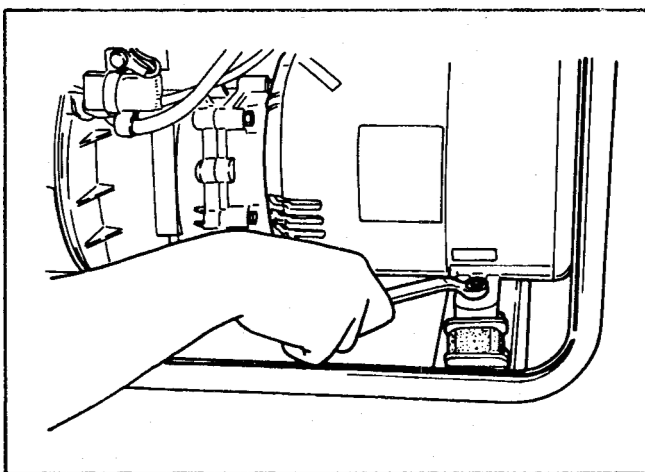

Figure 59
12. Remove the engine and generator from the tube frame by removing the four mounting bolts. See Figure 59.